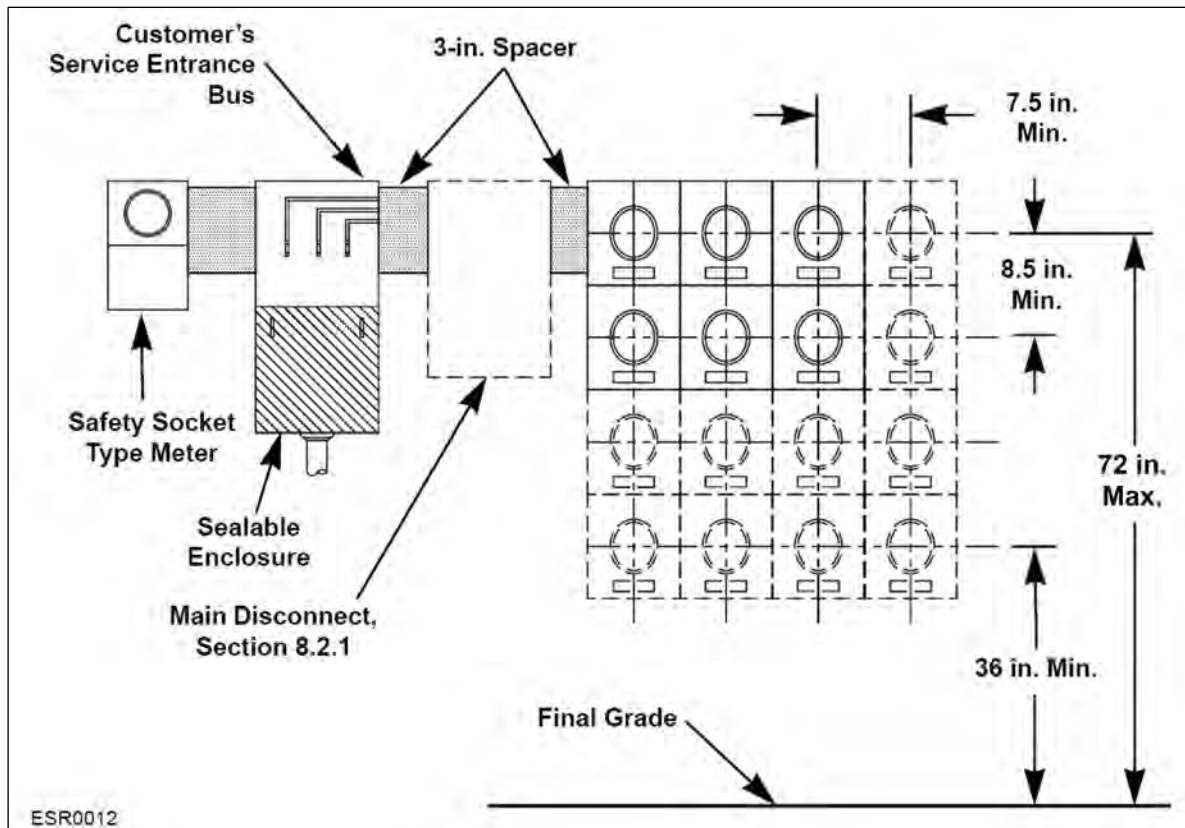

Figure 51: Meter Socket Installation for Underground and Overhead Multiple-Family Services
- The house meter must be the safety-socket type. Where the meter serves lighting only, a bypass or safety socket is not required (as **Figure 51** shows).
PGE requires a main disconnect in front of all meter banks that contain more than six meters. The main disconnect must be in the same location as the meter bank as shown in **Figure 51** above.
- A minimum 3-inch spacer is required between the disconnect or pull section and the meter socket panel, as shown in **Figure 51** above.